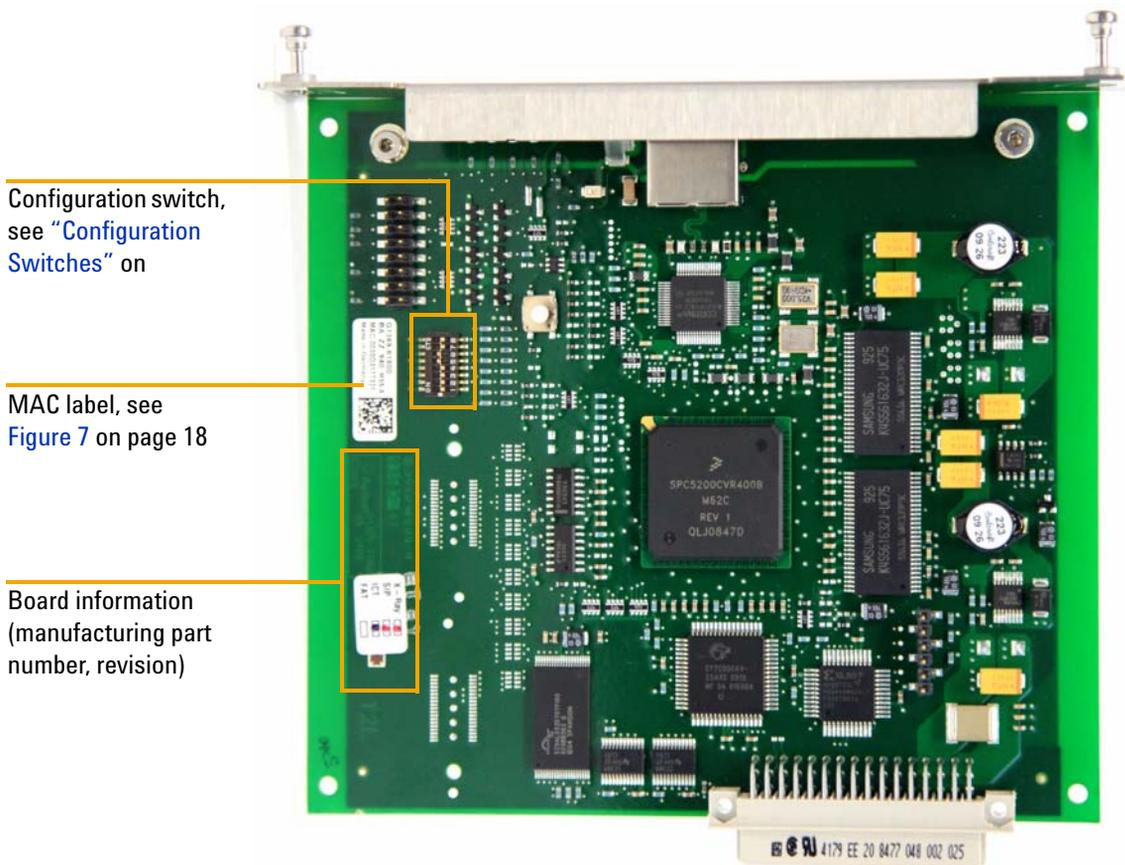

Figure 6 Board Layout G1369B
- 2 Note the MAC (Media Access Control) address for further reference. The MAC or hardware address of the LAN Interface is a world wide unique identifier. No other network device will have the same hardware address. The MAC address can be found on a label on the card (see Figure 6 on page 17).